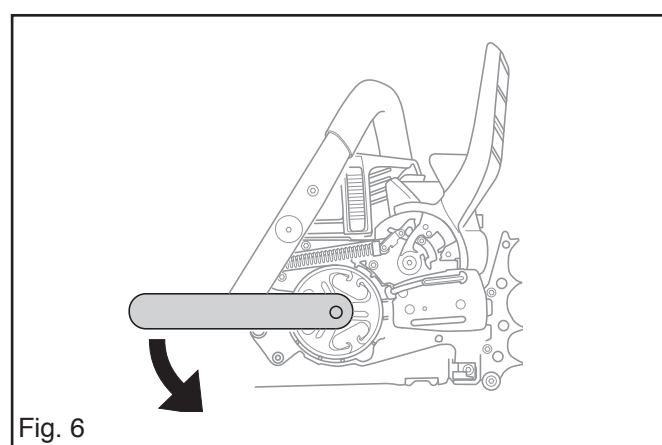

Fig. 6
2. Fit the clutch hub on the crankshaft and tighten with the clutch tool. Note – left-hand thread! See fig. 6.